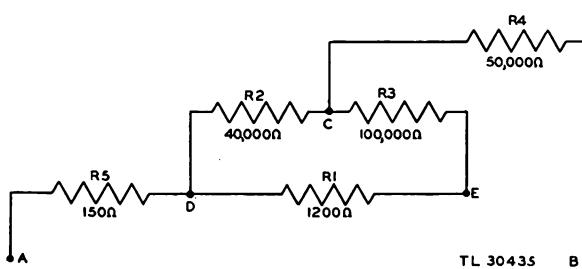

Figure 66. Resistance measurements functional schematic.
(2) *TYPICAL SERIES-PARALLEL CONNECTION.* Figure 66 shows a more complicated series-parallel arrangement. Although the appearance of the circuit is apt to be confusing, determining its resistance is simple. Five reference points, A, B, C, D, and E are shown, and ohmic values of the resistors are designated. *The total resistance between any two points depends entirely upon the type of resistance structure between those two points.* As explained in the following subparagraphs, it is necessary in many instances to reconstruct the circuit diagram of the network in order to simplify its arrangement.
IN FIGURE 66